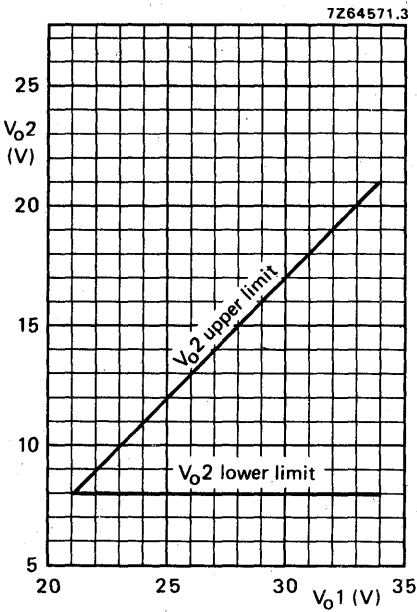

Fig. 6 Range of values for  $V_{O2}$ .
10.  $V_{O2}$  depends on the value of  $V_{O1}$  (see Fig. 6); adjustable with RA2.